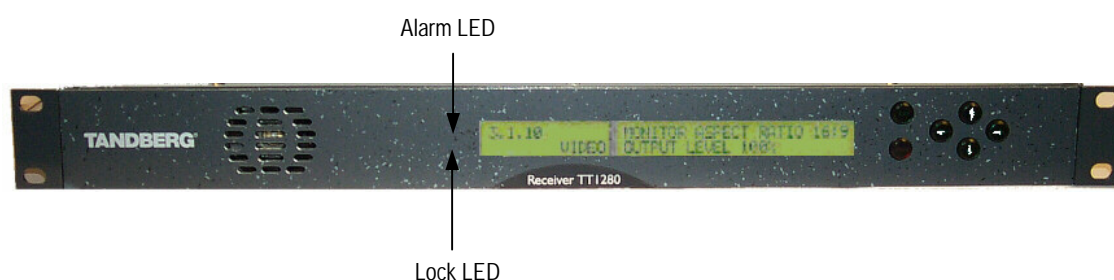

Figure 5.1: Front Panel LEDs
- Figure 5.1: Front Panel LEDs ..... 5-3